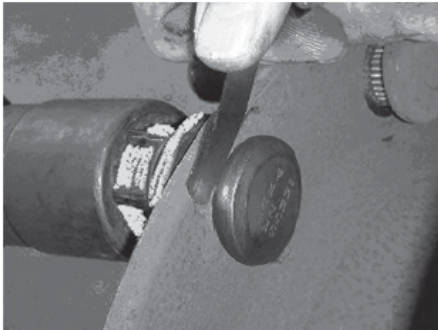

Figure 7: Checking stud installation
- 7. Check stud installation with a 0.0015 inch feeler gauge (Figure 7) to make sure the bolt is seated.
7. Check stud installation with a 0.0015 inch feeler gauge (Figure 7) to ensure the stud is fully seated.